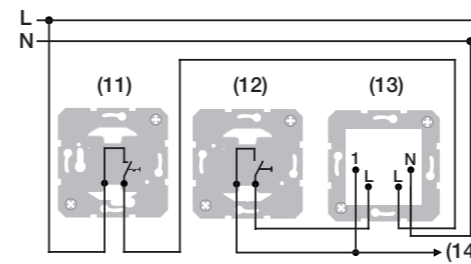
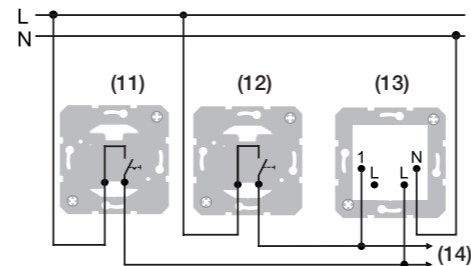

Figure 4: Connection example of colour switching via outer conductor, looped
Figure 5: Connection example of colour switching via outer conductor, not looped
The following example circuits show two possibilities for connecting the LED orientation light. In the connection example (Figure 4), the neutral conductor is pressed onto control input „1“ in order to switch over the colour. In the connection example (Figure 5), the outer conductor is pressed onto the control input „1“.
(11) Off/changeover switch
(12) Push-button
(13) Insert of LED signal light, RGB
(14) Connection possibility of additional LED signal lights, RGB
- Connect LED signal light, RGB according to connection example (Figure 4) or (Figure 5).
- Connect additional LED signal lights, RGB via (14).
- Install insert (13) into a wall box. The connecting terminals must be at the bottom.